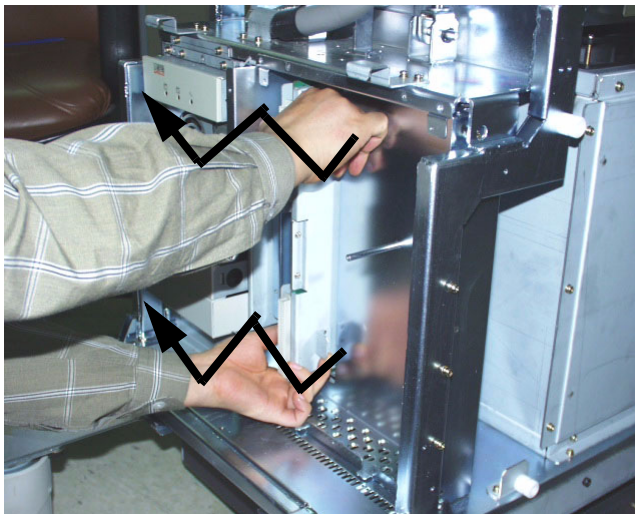

Figure 8-83 Pulling Out LMT Board
3.) Pull the LMT Board out. Refer to Figure 8-83.